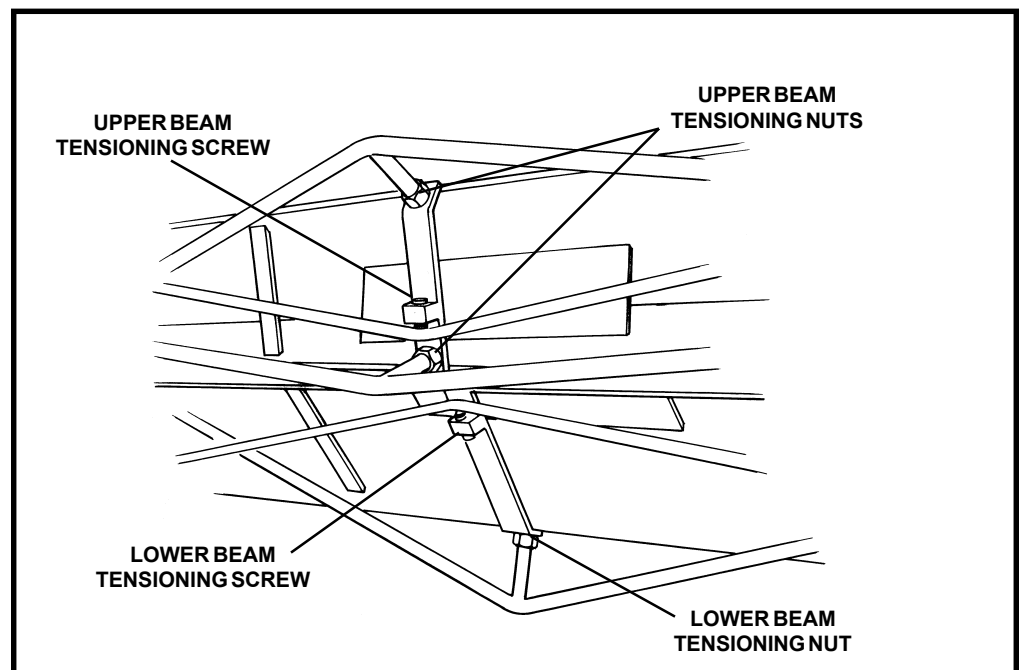
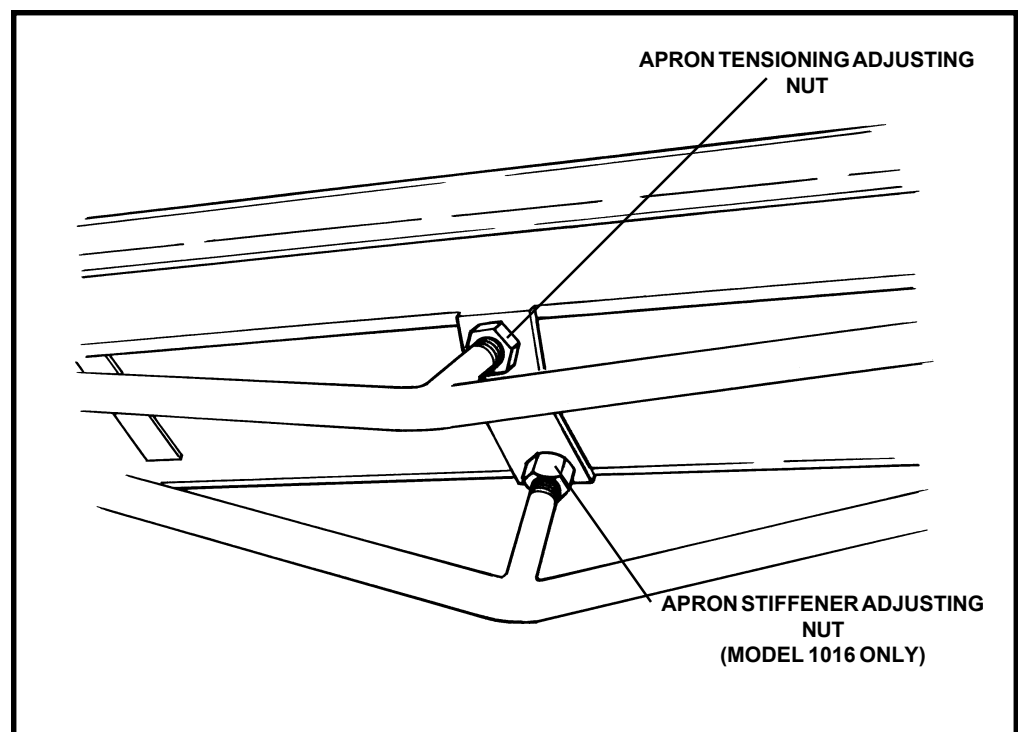

Figure 9. Upper Beam and Bed Tensioning Components.
Figure 12. Preloading Adjusting Components.
This approach may require additional preloading in order to close the hem tightly at the center. Increase the preload by tightening the upper beam tensioning adjusting nut (see Figure 9).
1. Relieve all tension on the upper beam tensioning nuts and on the upper beam tensioning screw (see Figure 9).
3. Adjust the upper beam and lower beam tensioning screws finger tight; and then tighten each with a wrench approximately one full turn (five flats) (see Figure 9).
4. Adjust the upper beam tensioning nuts finger tight, and then tighten each with a wrench approximately one full turn (five flats) (see Figure 9).
1. Loosen the apron tensioning nuts on the apron, (see Figure 12) and the upper and lower beam tensioning nuts (see Figure 9).
On the Model 1016 brake also loosen the apron stiffener adjusting nut located behind the lower apron tensioning adjusting nut (see Figure 12).
2. Loosen the upper and lower beam tensioning screws (see Figure 9).
5. Tighten the apron stiffener adjusting nut until the apron edge is $\frac{1}{32}$ -in. above the bed edge at the center (see Figure 12). The apron edge should remain $\frac{1}{64}$ -in. below the bed edge at both ends.
7. Tighten lower beam tensioning nut until the edge of the bed is $\frac{1}{64}$ " above the top edge of the apron at the center (see Figure 9). The edges of the bed and apron will then be parallel from end to end, with the edge of the bed $\frac{1}{64}$ " higher than the apron edge.
On the Model 1016 brake tighten the apron stiffener strap bolt located behind the lower apron tensioning nut until the horizontal gap between the bed and apron is slightly greater in the center than at the ends (see Figure 12). It may then be necessary to back off the lower apron tensioning nut slightly to maintain the bed $\frac{1}{64}$ -in. higher than the edge of the apron.